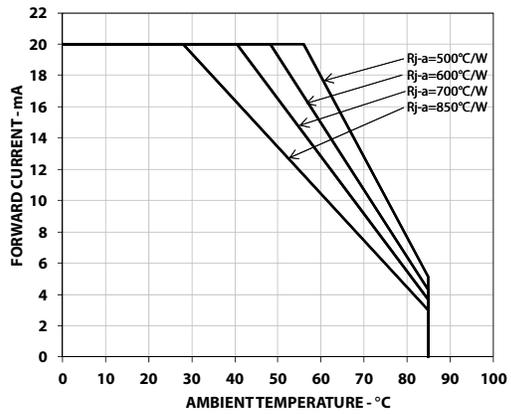

Figure 8. Derating curve
1. Derate as shown in Figure 8.